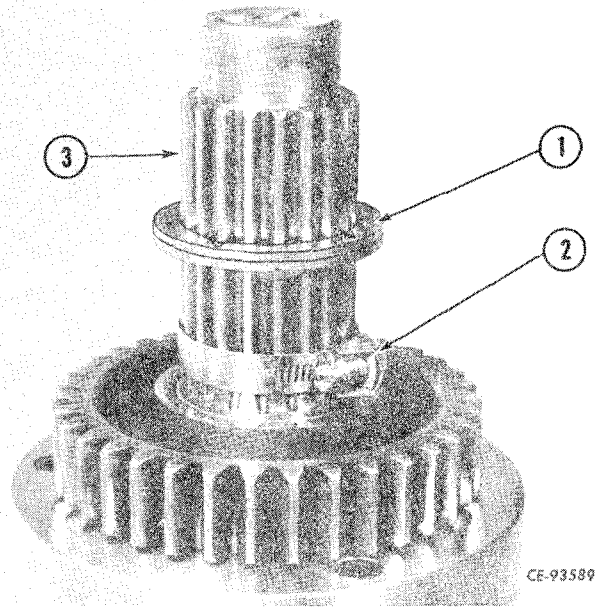

Figure 4-140
If special tool is not available, place a hose clamp (2, Fig. 4-140) over lock ring on shaft (3). Install washers (1) grooves toward gears.